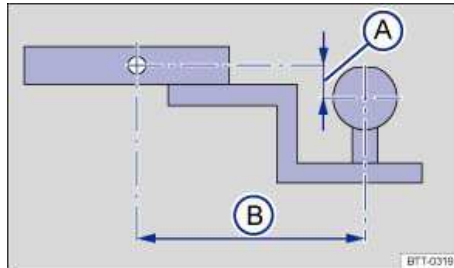

Fig. 111 Dimensions of the ball mount support.
⇒ fig. 111 (A), and the pin-to-ball distance (B).